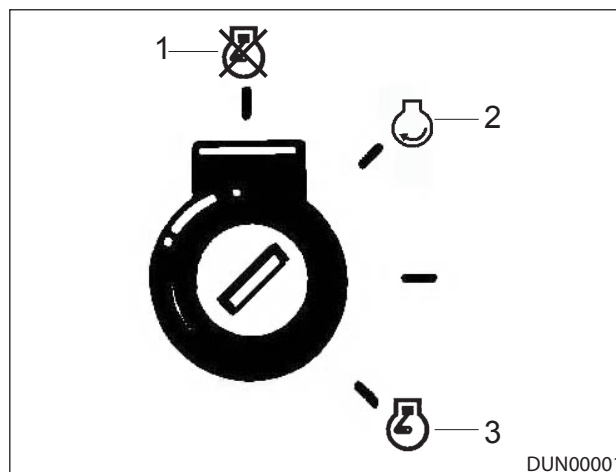

Figure 7.25 - Ignition Key Positions
2. Turn ignition key to position 2, Reference: Figure 7.25.
- » *Fuel solenoid engages and the control lamp (D) is extinguished.*
- 4. Turn ignition key to position 3 and holds until the safety siren stops, Reference: Figure 7.25.
- » *Oil pressure lamp (F) should extinguish.*
- 6. When oil pressure lamp (F) is extinguished release override button (H).